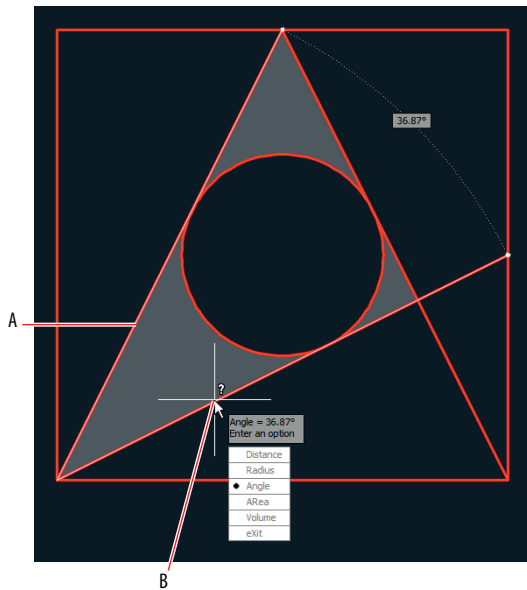

FIGURE 11.11 Measuring the angle between two lines
4. Select the Angle option in the dynamic prompt. Select lines A and B shown in Figure 11.11. The command prompt now gives the following value: